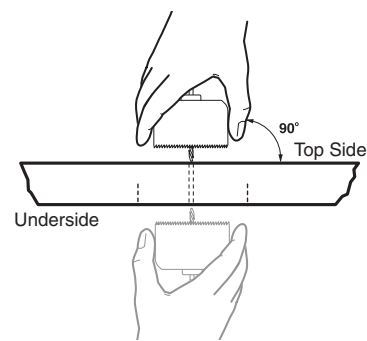

Figure 3. Mark and start cutting on underside. Finish on top side.
- f. Using these dimensions, mark and cut a hole (using a 2 inch hole saw) for the projector pipe in the removed ceiling tile (see figure 3).